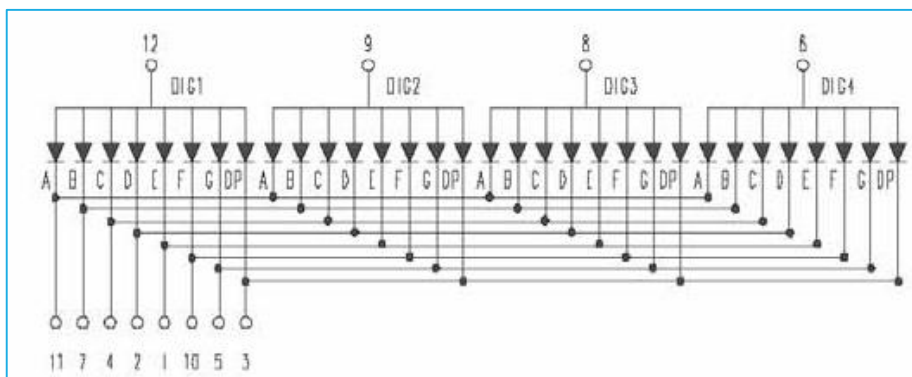

Figure 6 Common Anode LED display- as used on the PiMuxClock
Figure 6 below shows how this is implemented for a 4 digit display.
- The display needs to be common anode type, with 12 pins [see Figure 6 for correct pin out]